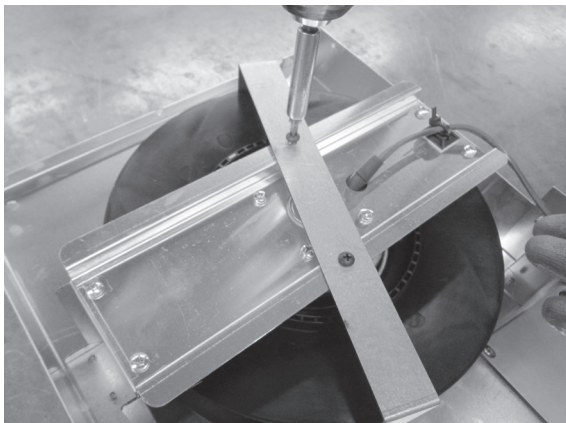

Figure 2.4
1. Remove the four screws holding the shipping bracket to the base of the HEAT-OUT-PRIMO. See Figure 2.4 and 2.5.